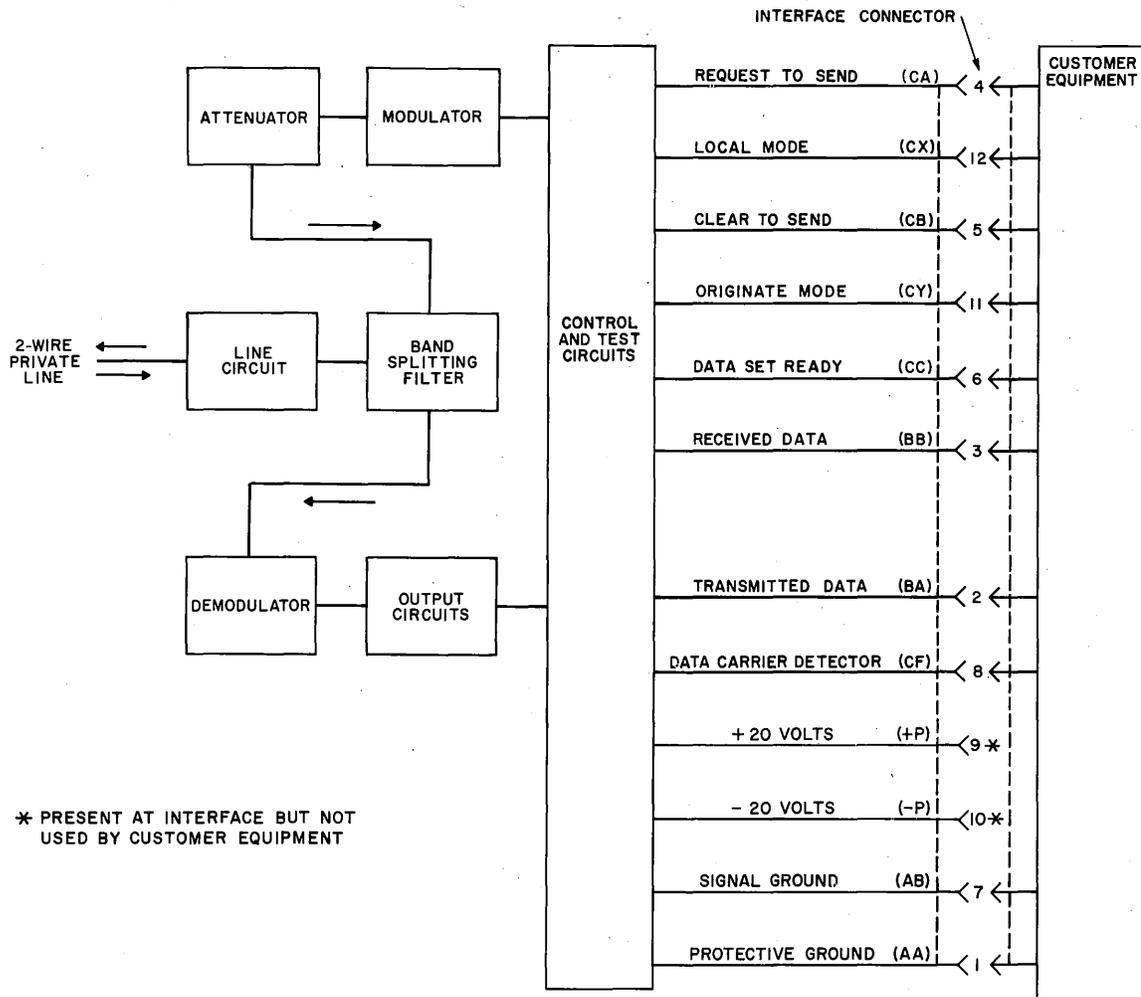

Fig. 5 — Data Set 103F Type, Block Diagram
3.03 The data set converts signals from the business machine into voice-frequency tones. These frequencies are transmitted over the private line to the distant station. The receive data set converts frequencies received from the line into proper form for business machine use. Fig. 5 shows a simplified block diagram of 103F-type data set.